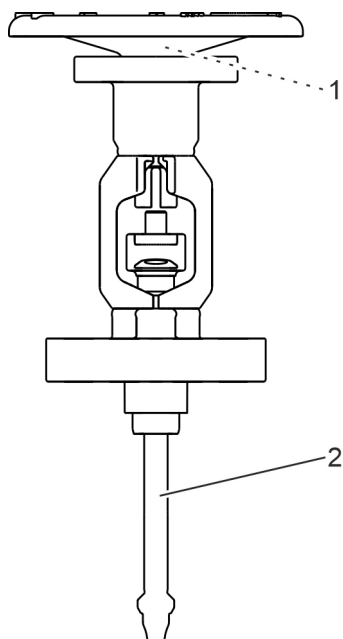

Fig. 25: Unscrewing the stem
- 11.** ➤ Unscrew the stem (Fig. 25/2) from the threaded bush (Fig. 25/1).